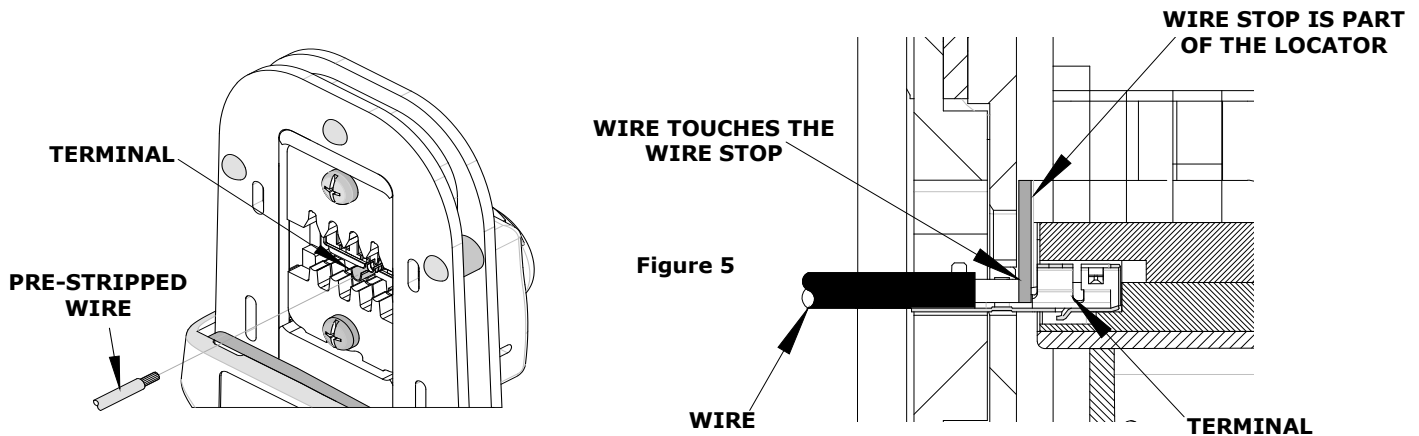

Figure 5
- Insert the stripped wire above the terminal and touching the wire stop. See Figure 5.